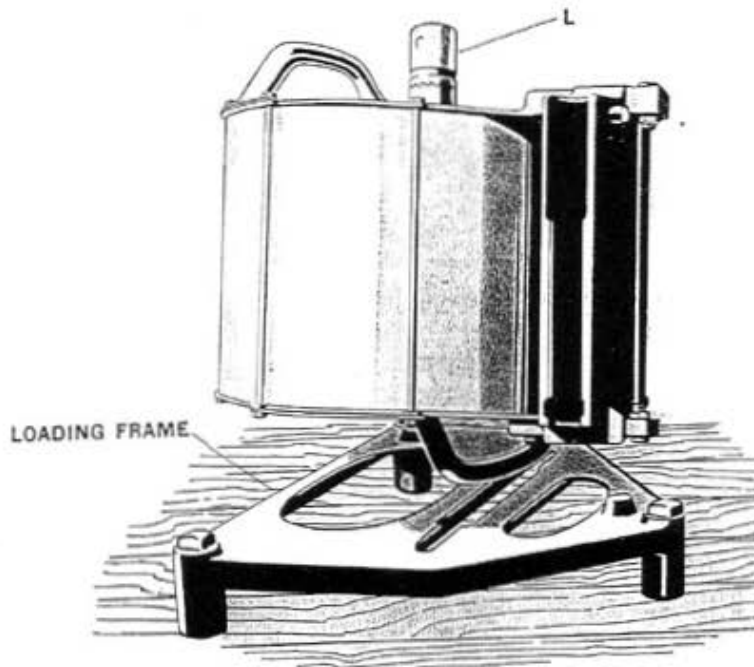
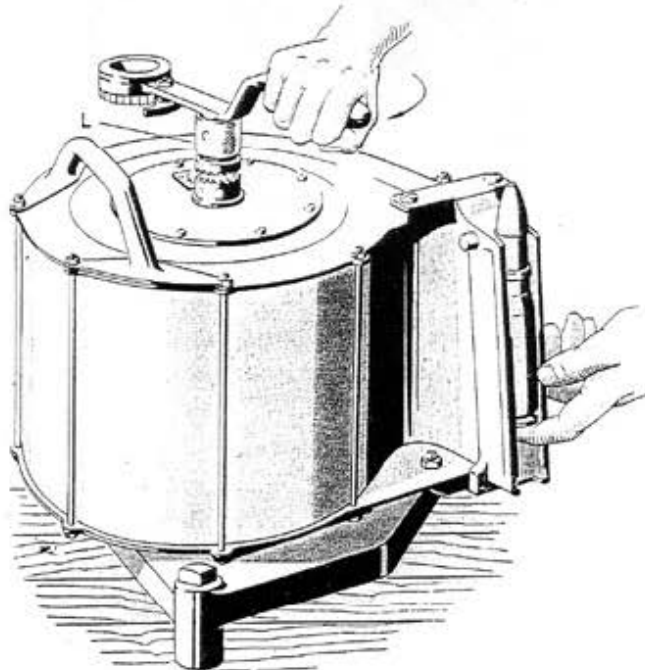

Figure 48—Placing magazine in loading frame, coupling (L) down
Figure 63—Unloading a partly tensioned magazine
The magazine consists of a cylindrical drum containing 60 rounds of ammunition that are driven around spirals, see A, B, C and D, Figure 48, inside the drum, by a clock spring (E) that is hand wound from outside the magazine. The tension of the spring can be adjusted.
1. Place magazine in the loading frame (OE-1591) as shown in Figure 48.
1. Place the magazine in the loading frame in the same manner as when loading. See Figure 48. Place loading lever in the spring tensioning axis as shown in Figure 63.
It is advisable to relieve the initial spring tension completely and this is done by using Steps 1, 2, 3 and 4, Page 72, these being the same as for "Relieving Magazine Spring Tension." In this case of initial tensioning, the loading lever will relieve the slight initial tensioning in the first 4 Steps, and Step 5 will be unnecessary. Place the loading lever as in Figure 63 and revolve it clockwise with one hand, so that a cartridge is constantly being pressed against the magazine mouthpiece. Use the other hand, and push out the cartridges as they appear at the mouthpiece.
It is advisable to relieve the spring tension by using Steps 1, 2, 3, 4 and 5, Page 72, and then unload the cartridges as instructed above. See Figure 63.